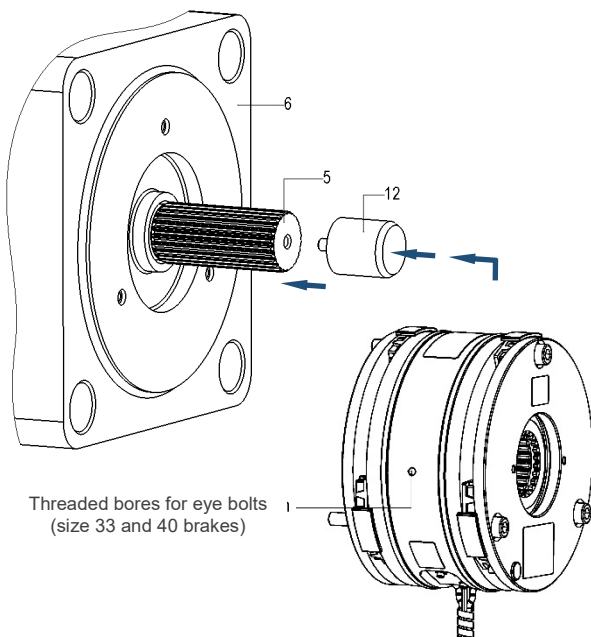

Fig. 3/1: Centring the spring applied double circuit brake
Remove the transport packaging. Slip the brake with the internally toothed friction discs (1.6 and 2.6) onto the externally toothed machine shaft (5). Align the brake on the bearing shield (end shield) (6) so that the bushes (8) provided in the flange (1.4) of brake circuit MGB1 form-fit into the centering bores (cylindrical bores) in the bearing shield (6) (Fig. 3/1). Use the fixing screws (3) and washers (4) (see Table 4/1) to fix the brake to the bearing shield (6) of the lift machine (Fig. 3/2). The M_A tightening torque specified for the fixing screws (3) can be found in (Table 3/1).